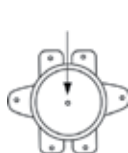

Fig. 12
- for FSM2/FSQ2 series horizontal-type water heaters: press the button, located in the center of the thermal switch, placed near the heating element (with a round shape), until it clicks, Fig. 12;